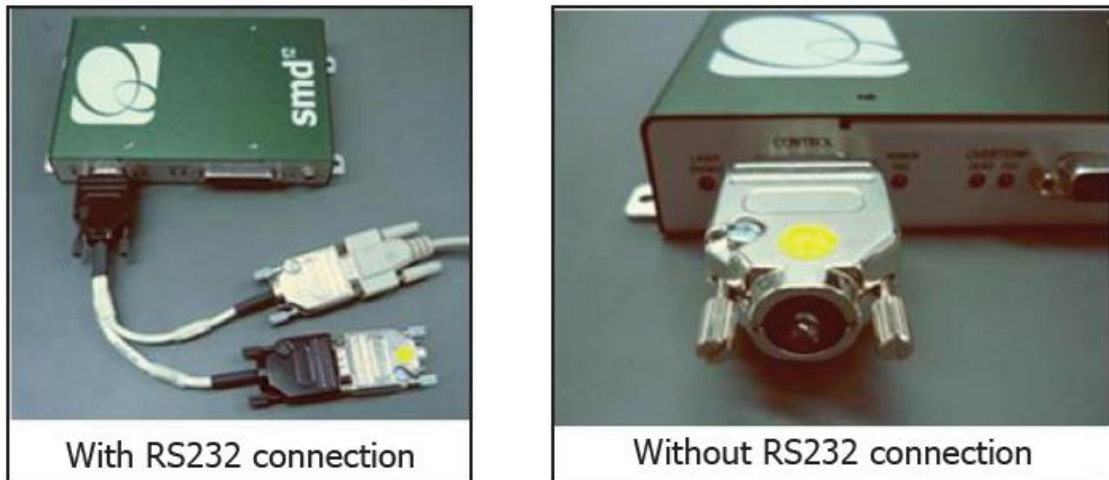

Figure 4-2
- 4 The analogue Control port (see Figure 4.2) is multi-functional as it has connections for Interlock, Enable Switch and Laser Power Control/Modulation. The Interlock must be closed to allow the laser to operate, and this can be achieved using the supplied yellow-spot Interlock Dongle.
Using the Control port without the Break Out Cable) see Fig 4.2):
Using the Control port with the Break Out Cable) see Fig 4.2):